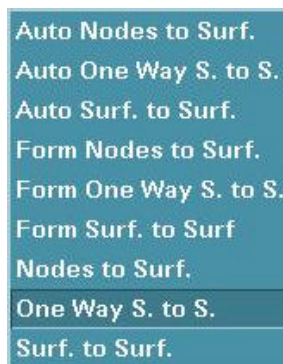

Figure 9.1.5 Contact Interface Type
- There are several contact interface types, see Figure 9.1.5.